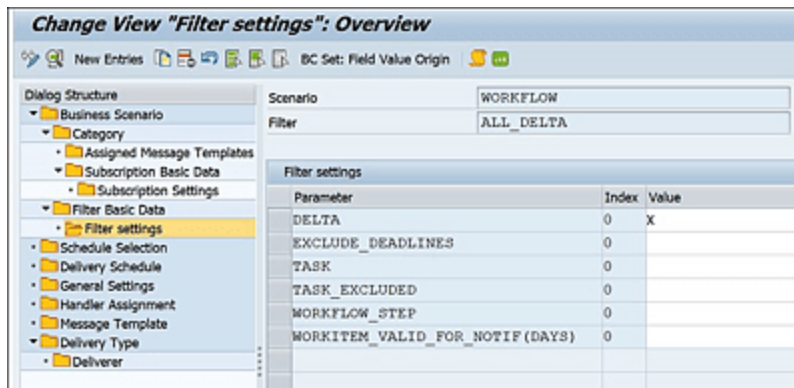

Figure 7.19 Filter Settings
3. Next, create a delta filter. The initial steps are the same as for a full filter, but under node **Filter Basic Data**, when you select **Filter Settings**, add parameter **DELTA** with an "X" value, as shown in Figure 7.19.